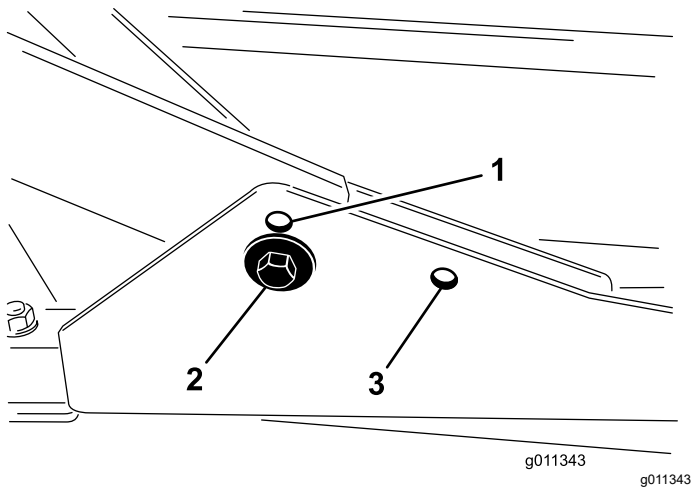

Figure 16
1. For heights of cut in the 2 to 7.6 cm (3/4 to 3 inch) range, mount the front carrier frames in the lower front mounting holes (Figure 16).
2. For heights of cut in the 6.3 to 10 cm (2-1/2 to 4 inch) range, mount the front carrier frames in the upper front mounting holes (Figure 16).
For all heights of cut, mount the rear cutting deck in the rear mounting holes (Figure 16).